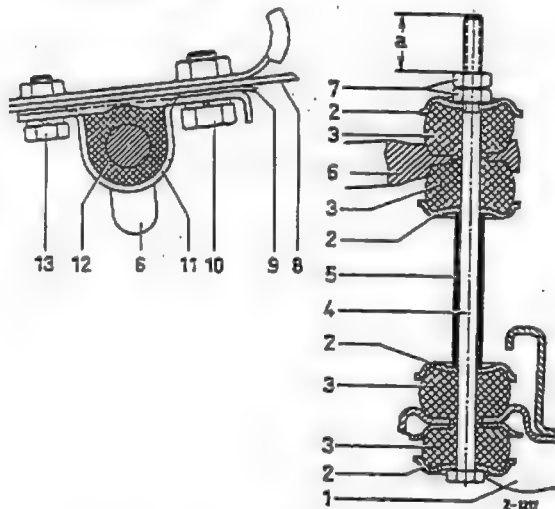

Fig. 32-6/2
2. Unscrew the hexagon screws (8) and (9) for fastening the rubber mountings (10) for the torsion bar (12) to the chassis base panel at the left and at the right and remove the torsion bar together with the brackets, the rubber mountings, and the locking plates (Fig. 32-6/1).
3. Check the two rubber mountings (12), the rubber buffers (3) and the hexagon screws (4) together with the cup washers (2) and the spacer tubes (5) (Fig. 32-6/2).